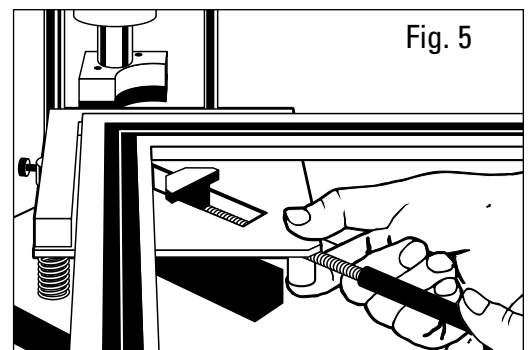

Fig. 5
3. Adjust clamp jaw by pressing spring button and sliding handle (Fig. 5).